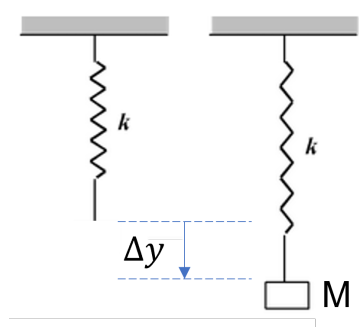

Figure 1: Measurement of the elongation of the spring in the static setup.
- Use the ruler provided on the setup to measure the displacement of the spring Δy from the photos, see Figure 1.